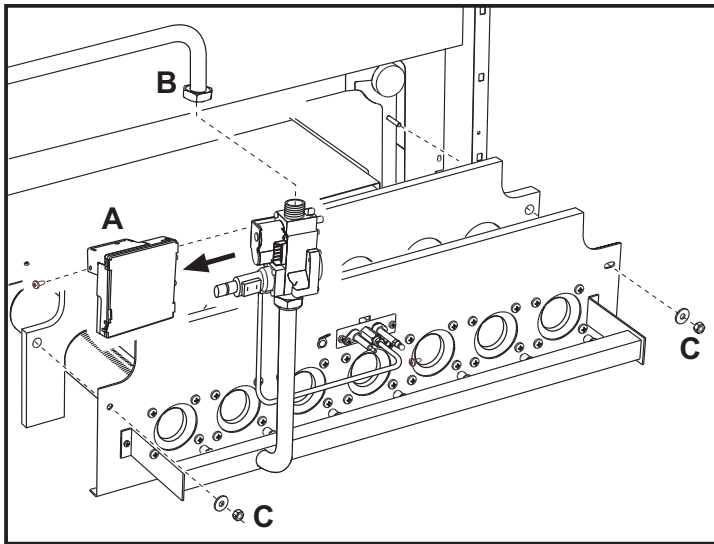
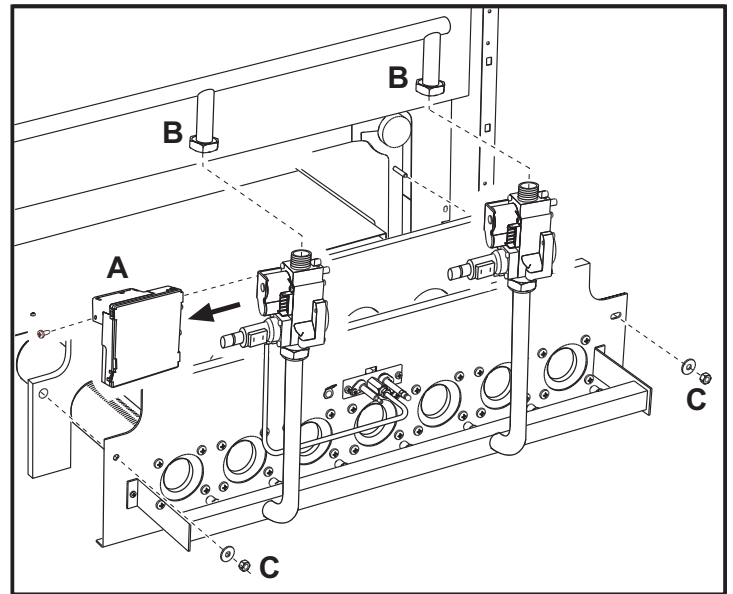

fig. 7 - Models PEGASUS - 67 2S, 77 2S and 87 2S
fig. 8 - Models PEGASUS - 97 2S and 107 2S
- Remove the electronic flame controller "A" from the gas valve (fig. 7).
- On models **97 2S** and **107 2S** with 2 gas valves, undo the 2 screws securing the 2 electrical connectors that feed the second valve and remove them from it (fig. 8).
- Undo the nut "B" fixing the gas feed pipe ahead of the gas valve (fig. 7). On models **97 2S** and **107 2S**, undo the 2 nuts (fig. 8).